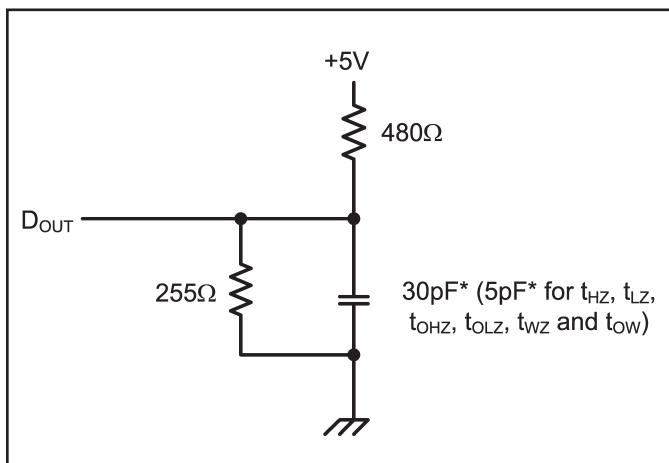

Figure 1. Output Load
- Transition is measured  $\pm 200\text{ mV}$  from steady state voltage prior to change, with loading as specified in Figure 1. This parameter is sampled and not 100% tested.
Output Load	See Figures 1 and 2